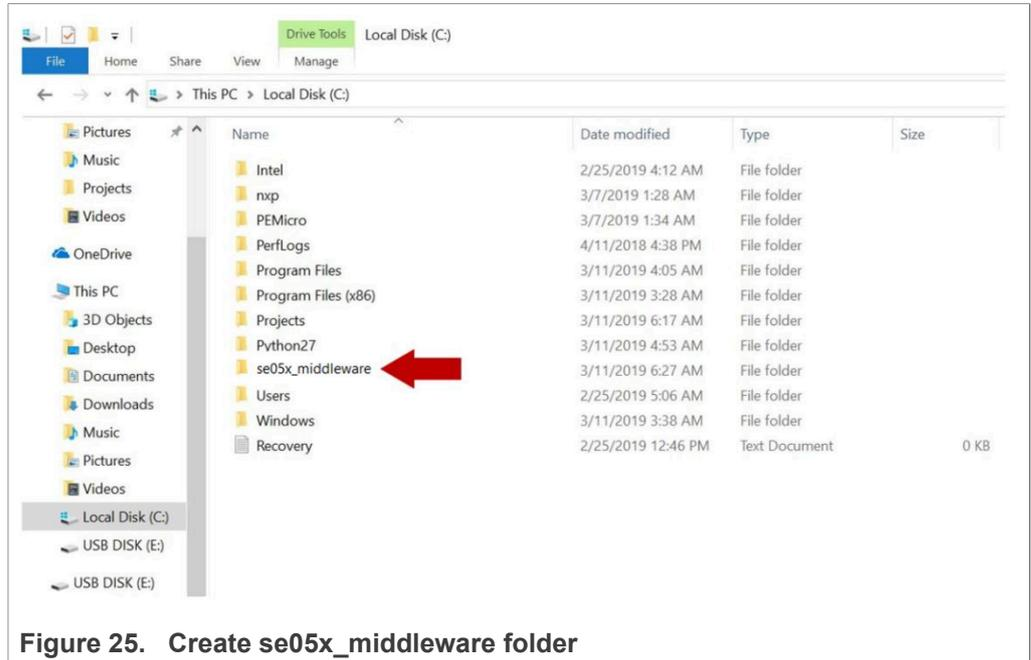

Figure 25. Create se05x_middleware folder
2. Create a folder called **se05x_middleware** in C: directory as shown in Figure 25: